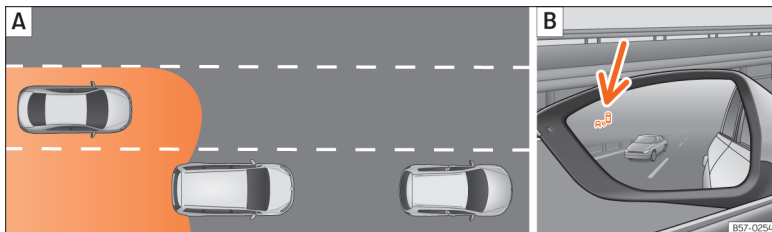

Fig. 273 Schematic diagram: **A** | Passing situation with traffic behind the vehicle. **B** | Indication from the blind spot detector in the left-hand external mirror.
the outside »» Fig. 272. The sensors monitor both the blind spot and traffic behind the vehicle »» Fig. 273, »» Fig. 274. The range to the sides of the vehicle is a bit larger than the width of a lane.
In the following situations, an indication will be displayed in the external mirror »»» **Fig. 273 B** [arrow] or »»» **Fig. 274 B** [arrow]:
- When being overtaken by another vehicle »»» **Fig. 273 A**.